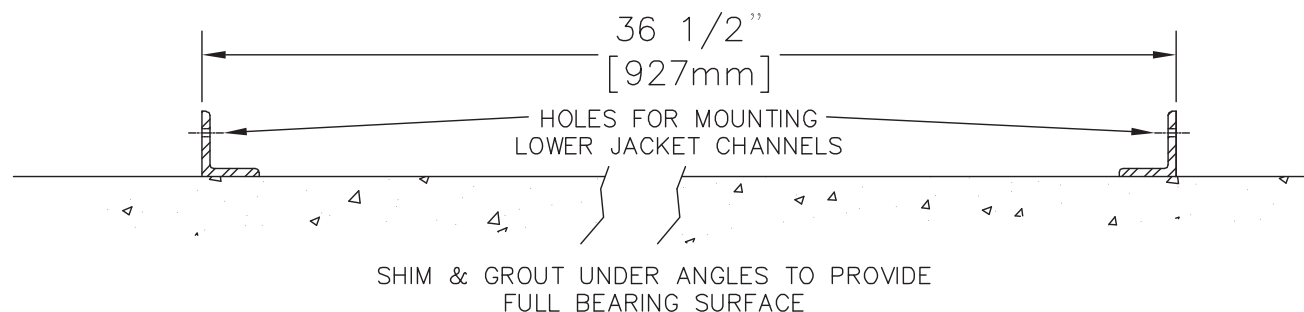

Figure 2.1: Angle Rail Placement
3. Lay the angle rails provided at the point of final installation. Set the angles in parallel position measuring 36-1/2" [927 mm] outside-to-outside of angles as shown in Figure 2.1. Shim the angles to level them and grout under angles after the sections are assembled.